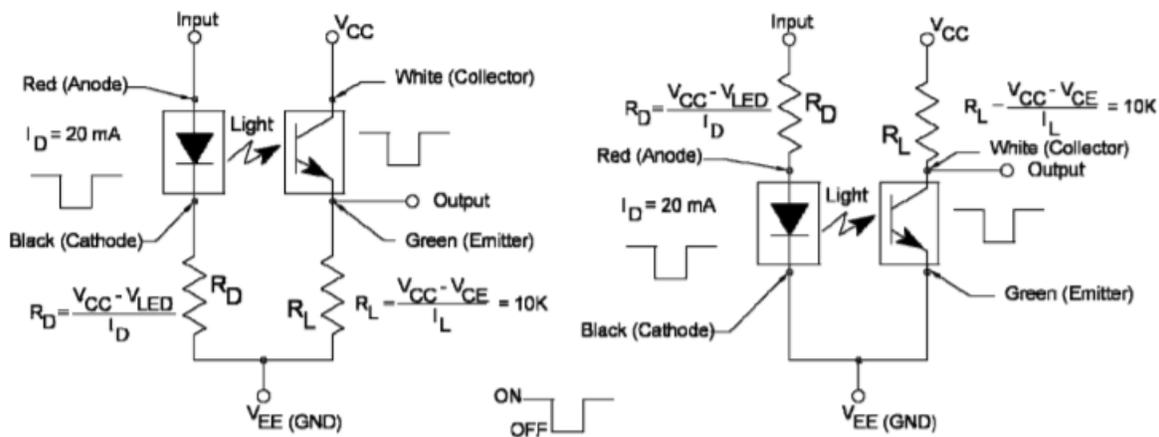

Figure 1
Optical switching occurs when the LED radiates light on the phototransistor and a current begins to flow. This load current (IL) can be changed to a voltage and easily measured by adding a resistor to either the collector or emitter (see figure 1). The forward current of the LED (ID) is used to control the amount of light being radiated. This current is controlled using a limiting resistor (RD) and typically ranges from 5mA to 20mA. The equations to calculate the resistor values are noted in figure 1 with a typical load resistance value noted.
So now we know that an optical switch has an LED and photosensor that can have an output current maximum / minimum ratio in the 3 to 7 range at room temperature. Adding LED degradation at 5% changes this ratio to 3.15 to 7.35. Adding temperature variation from  $-40^{\circ}\text{C}$  to  $+85^{\circ}\text{C}$  can change this ratio to 5.53 to 12.90 or more. Fortunately, with simple designs like the ones in figure 1, the minimum amount of output current becomes the most important design factor. First, one must take into consideration the specified electrical characteristic variation, temperature fluctuation, LED degradation and finally the change in the power source. Designing with these characteristics in mind will provide a more robust and stable solution.